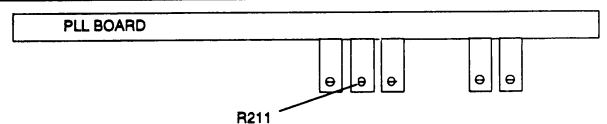

Figure 4-14. R211 Locator
3. Use the **Knob** to step between the triangle and square waves. Slide the cover back. Adjust R211 (figure 4-14) on the PLL board until the peak to peak amplitude of the triangle matches the peak to peak amplitude of the square wave. Slide the cover back on.